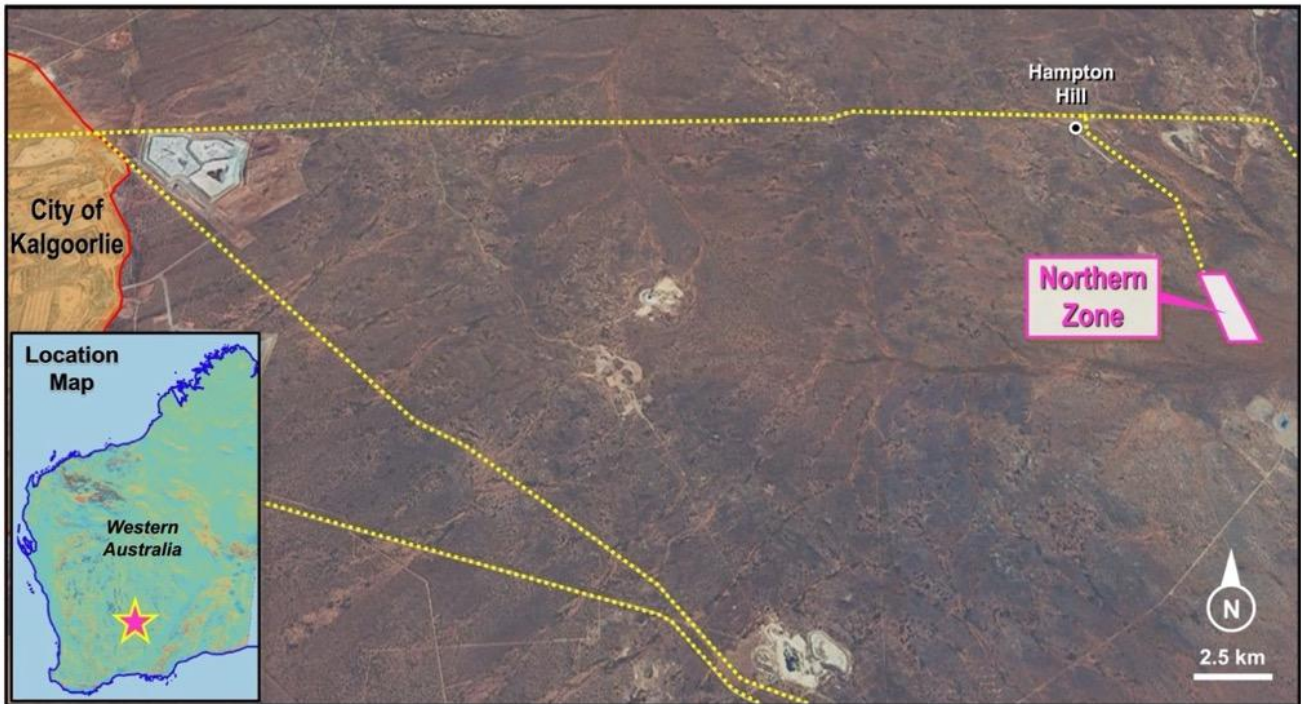

Figure 2: Northern Zone Project Map showing proximity to the Kalgoorlie "Super Pit".
Riversgold Limited (ASX: RGL, Riversgold or the Company) is pleased to announce that it has received the final batch of assay results from the November aircore (AC) drilling undertaken during Riversgold’s fourth aircore program at the Northern Zone Intrusive Hosted Gold Project, located 25km east-south-east of the Kalgoorlie Super Pit in Western Australia (refer to **Figure 2** for location).